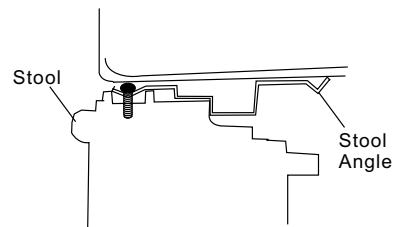

Fig.12
2. Place cabinet in window with bottom stool angle firmly seated over window stool as shown. Bring window down temporarily behind top angle to hold cabinet in place (Fig.12).
Step 2. Remark a line on the R1 insulation panel according to a length 1/8 (3mm) less than the measured width in step 1, then cut the R1 insulation panel along the line (Fig.12).